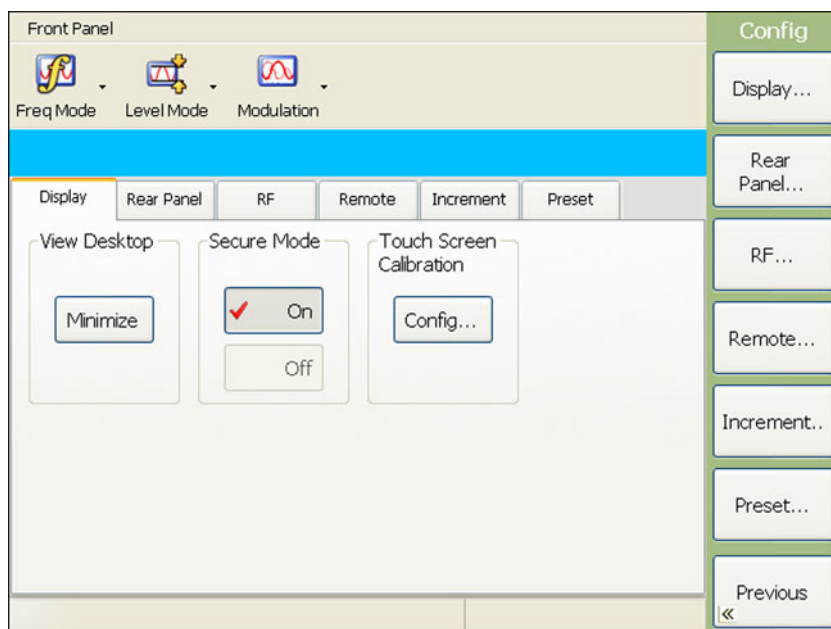
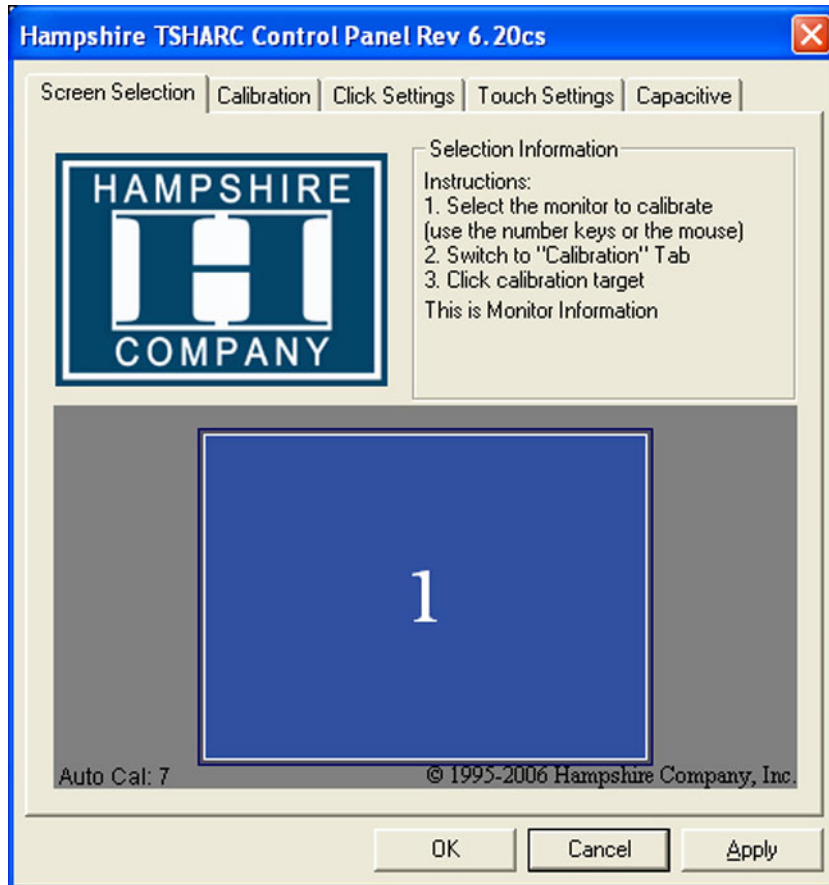

Figure 4-4. Display Configuration Menu
Figure 4-5. Touch Screen Control Panel
1. Enter the display configuration menu (Figure 4-4) by pressing **System** | Confi. | Display...
2. Press the Touch Screen Calibration Config... button shown in Figure 4-4 and follow the on-screen instructions found on the control panel (Figure 4-5) to start the automatic calibration function.